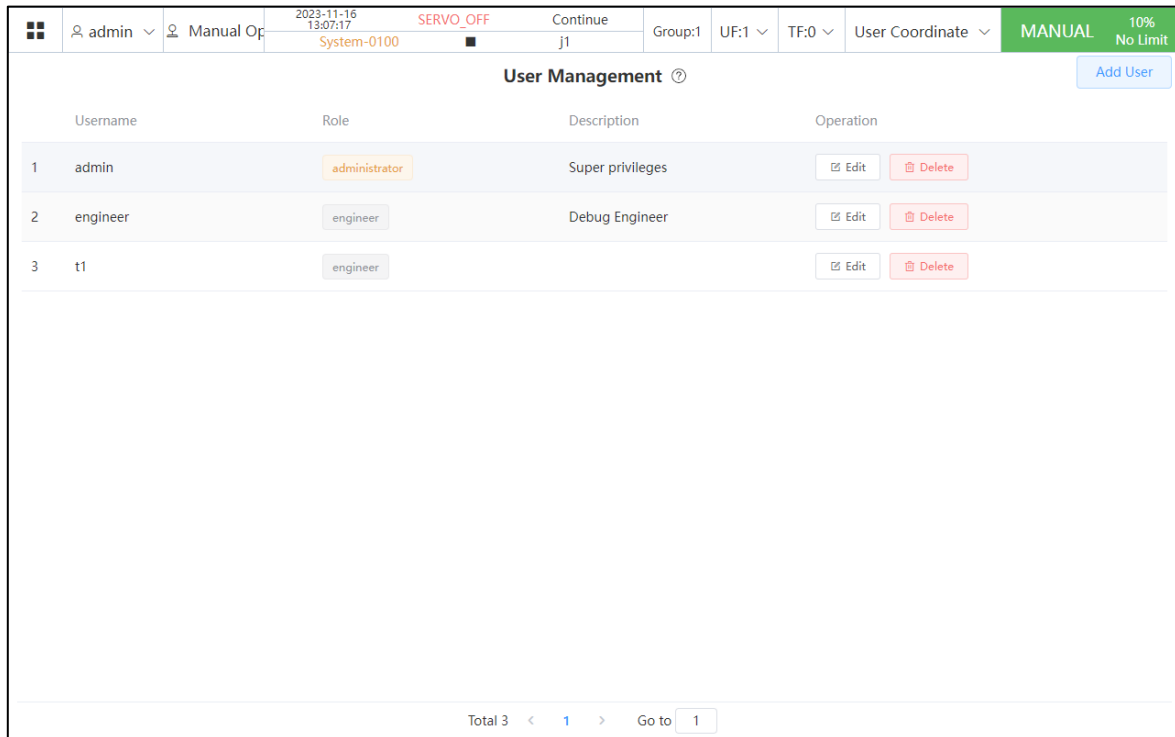

Fig. 2.54 User Operation Interface
2. Successively click "Menu Button" → "User Management" to enter the user management interface, as shown in Fig. 2.54.